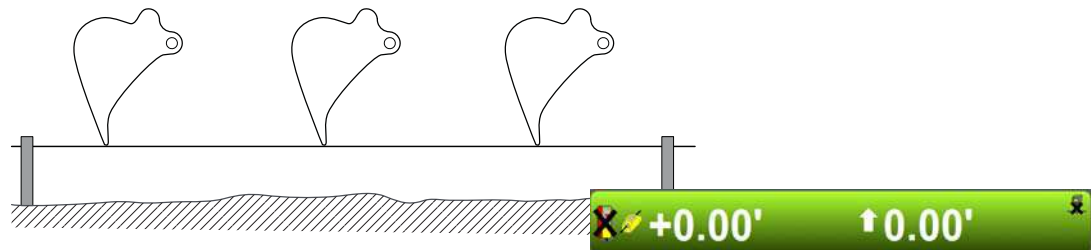

Figure 80: Move the Bucket and Compare 3D-MC Measurements
5. Position the bucket on the string at several points, and compare the cut/fill readings shown in 3D-MC; cut/fill readings should be zero for each position (Figure 80).